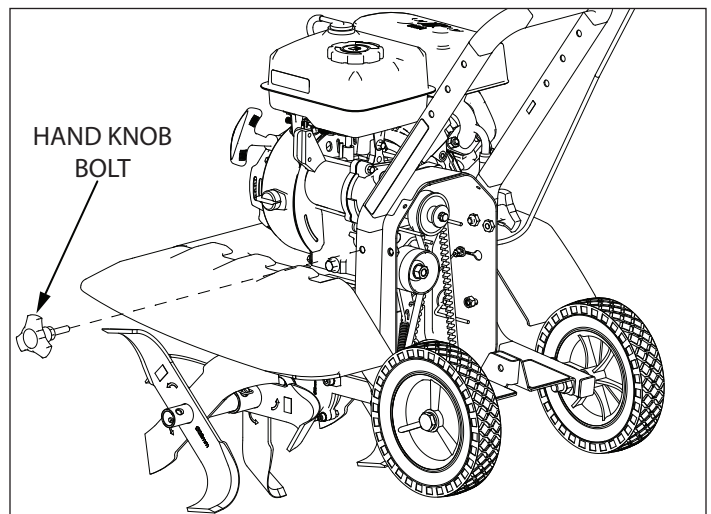

FIGURE 9
11. Insert one hand knob bolt through upper mount hole of lower handlebar mount and tighten. **SEE FIGURE 9**